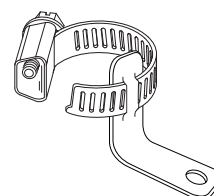

Figure 9 Machine fixing clamp
- The appliance must be fixed to the floor using the two clamps supplied (Figure 9).